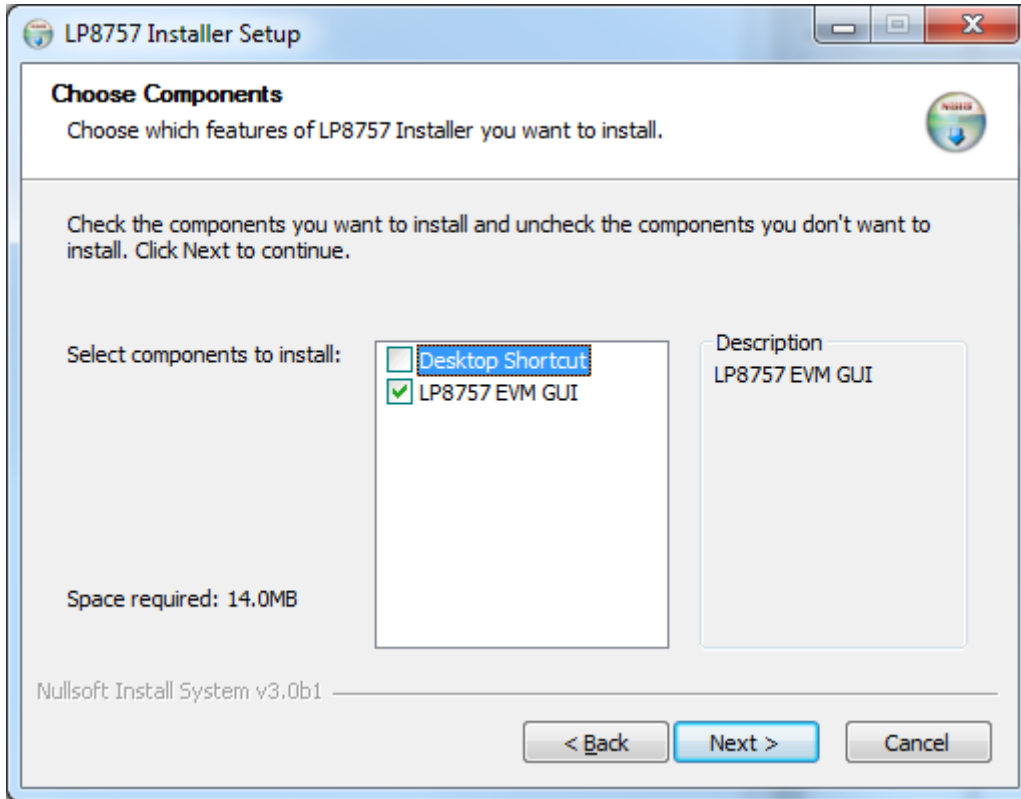

Figure 3-2. Features of LP8757 Installation
3. Installer prompts to choose which features of LP8757 Installer you want to install (see Figure 3-2).